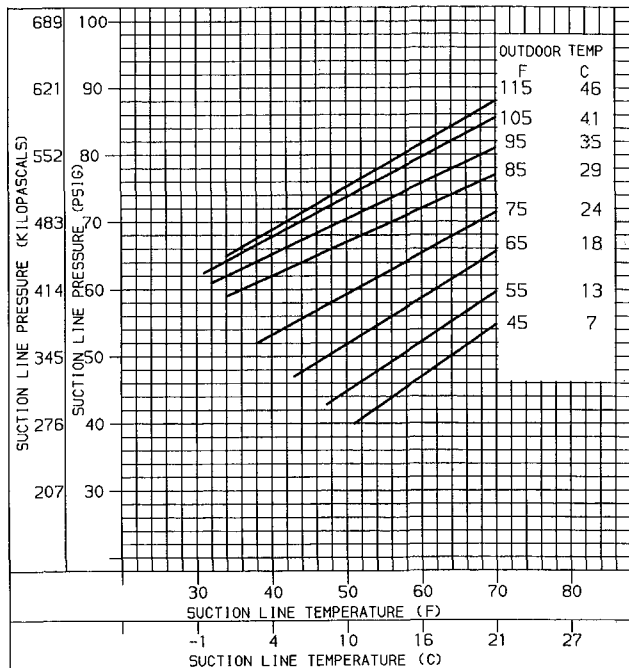

**Fig. 30 – Charging Chart**
**REFRIGERANT CHARGE** — All units are shipped with a complete operating charge of R-22. See unit nameplate and Tables 1a and 1b for amount of charge. When charging refrigerant system, refer to Carrier Standard Service Techniques, Refrigerants section. When adding a complete charge, evacuate system using standard evacuating procedures and weigh in the specified amount of charge. See Fig. 30 for refrigerant circuit charging chart.